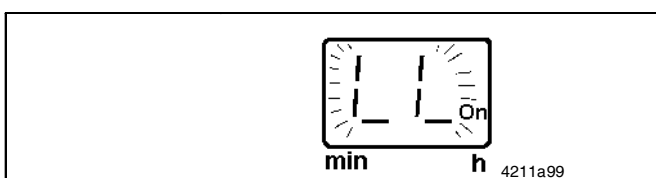

Fig. 21 Display of a low-level indication
- In the case of a low-level signal, in the display of the membrane keypad, * LL * (fig. 21) will appear as a flashing signal.